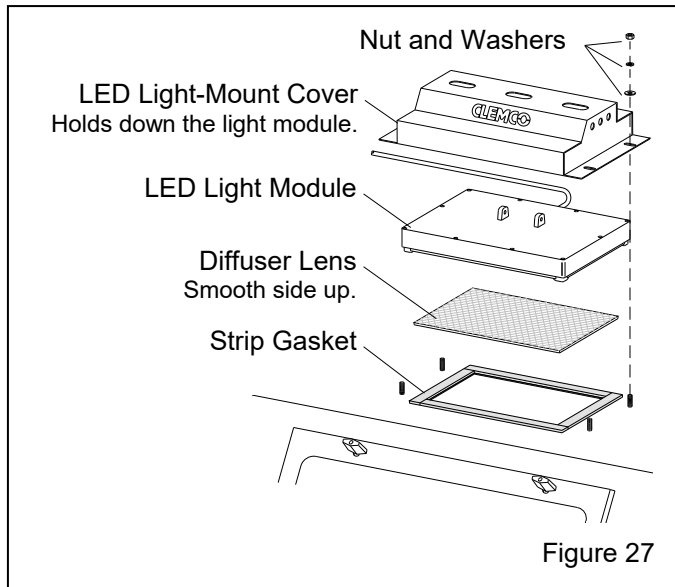

Figure 27
7.7.1.2 Remove the four nuts and washers that attach the light-mount cover to the cabinet and remove the cover, as shown in Figure 27.
7.7.2.3 Lay a section of strip gasket along the edge of the opening and cut to length, allowing 3/4" overlap on each end. Peel a short section of adhesive backing and adhere the strip gasket to the top edge of the light opening, as shown in Figure 27. Press the gasket to bond. Repeat the process for each side, compressing the ends to seal.